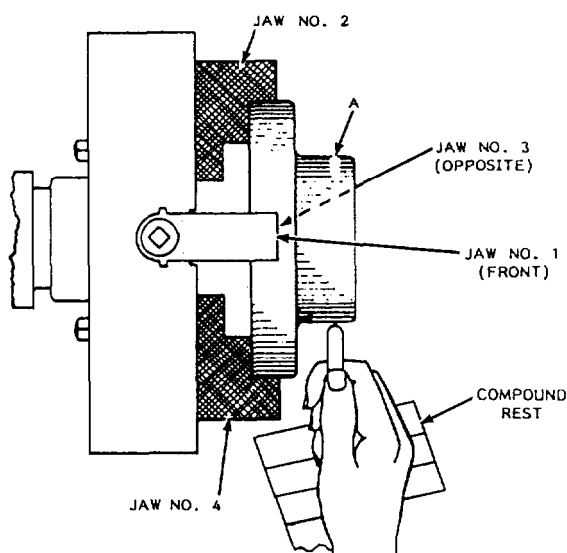

Figure 9-23.—Work mounted in a four-jaw chuck.
FOUR-JAW INDEPENDENT CHUCK.—Figure 9-23 shows a rough cylindrical casting mounted in a four-jaw independent lathe chuck on the spindle of the lathe. Before truing the work, determine which part you wish to have turned true. To mount this casting in the chuck, proceed as follows:
4. Revolve the spindle slowly by hand and, with a piece of chalk, mark the high spot (A in fig. 9-23) on the work while it is revolving. Steady your hand on the tool post while holding the chalk.